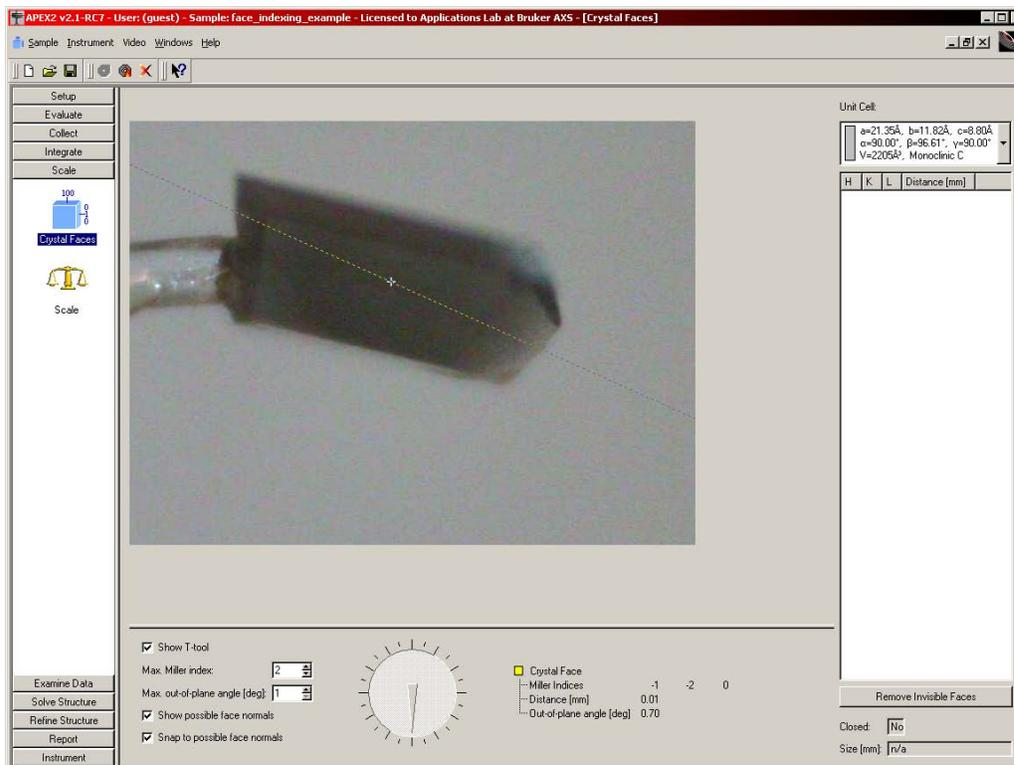

Figure B.4 – Face Indexing: Initial View
3. Click **Save**. If VIDEO is not open, it will open with a progress bar showing the video zip stream collection. When the video zip stream is fully collected, the Face Indexing initial view will appear (Figure B.4).